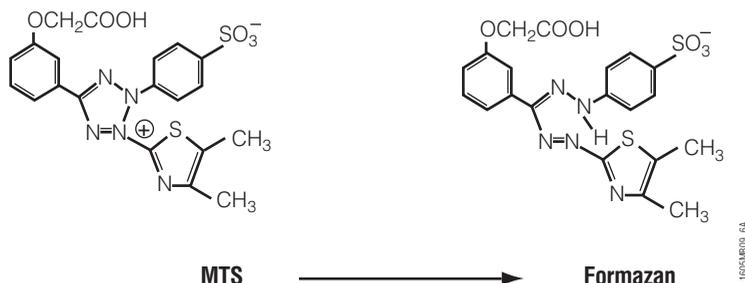

Figure 1. Structures of MTS tetrazolium and its formazan product.
The MTS tetrazolium compound (Owen’s reagent) is bioreduced by cells into a colored formazan product that is soluble in tissue culture medium (Figure 1, 1). This conversion is presumably accomplished by NADPH or NADH produced by dehydrogenase enzymes in metabolically active cells (2). Assays are performed by adding a small amount of the CellTiter 96[®] AQ_{ueous} One Solution Reagent directly to culture wells, incubating for 1–4 hours and then recording the absorbance at 490nm with a 96-well plate reader (3,4).